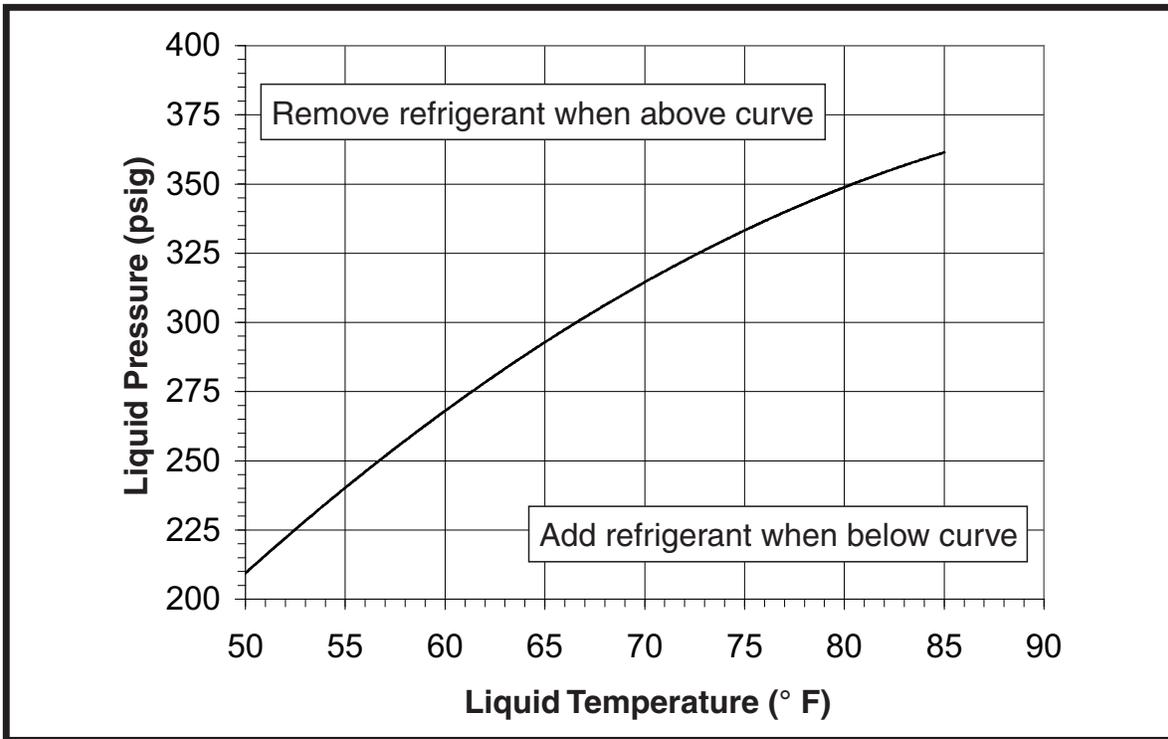

Figure 8. Heating Charging Chart
2. Weigh in the proper charge per Table 3, using the Heating Charging Chart (Figure 8, page 16) as a guide. Unit charge MUST be verified in cooling season.